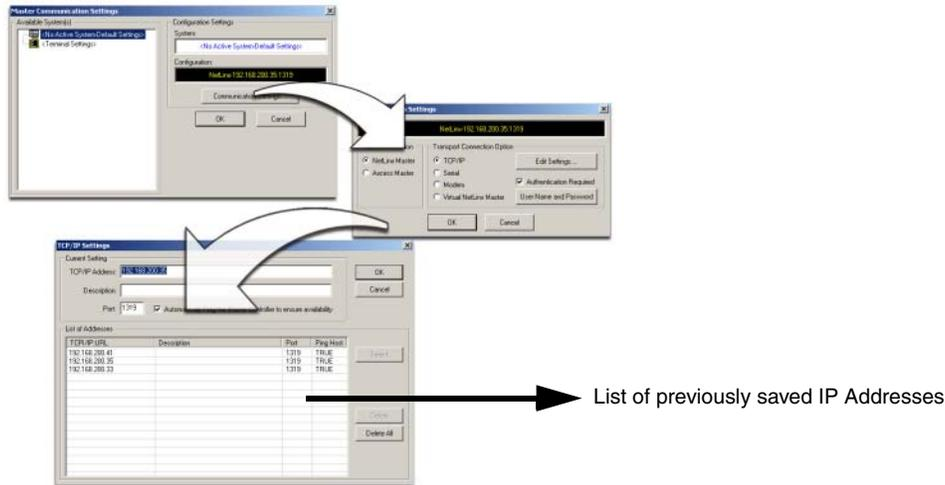

FIG. 73 Assigning Communication Settings and TCP/IP Settings
3. Select **Settings > Master Communication Settings**, from the Main menu to open the Master Communication Settings dialog (FIG. 73).
8. Click the **Edit Settings** button (*on the Communications Settings dialog*) to open the TCP/IP Settings dialog (FIG. 73).